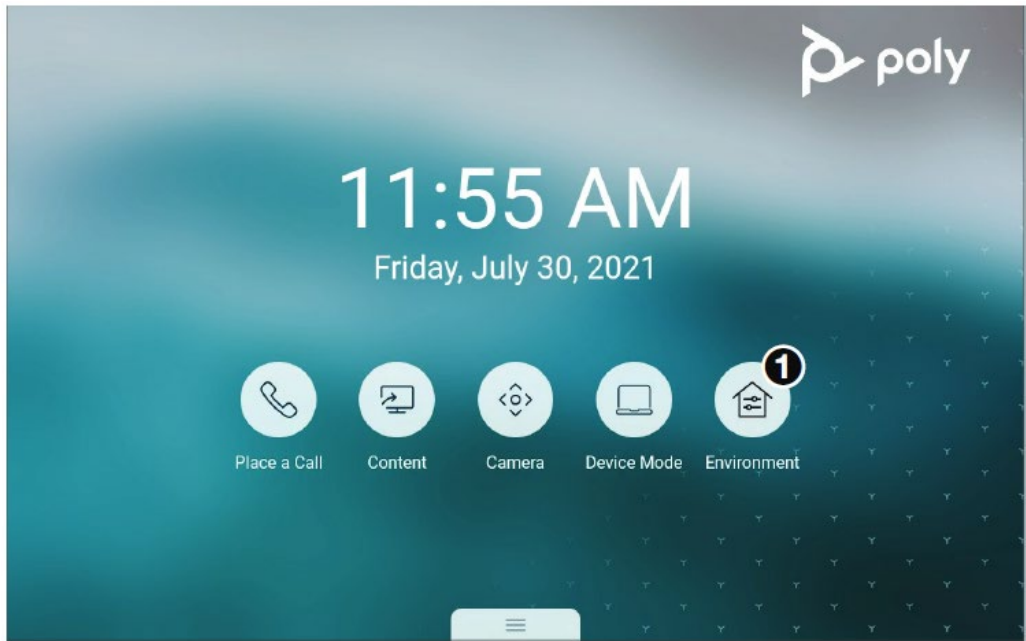

Figure 4. Environment Control Enabled on Poly Touch Controller
The following is how the Poly Touch Controller application appears with the Extron Environment Control Application (see figure 4, ❶) enabled.